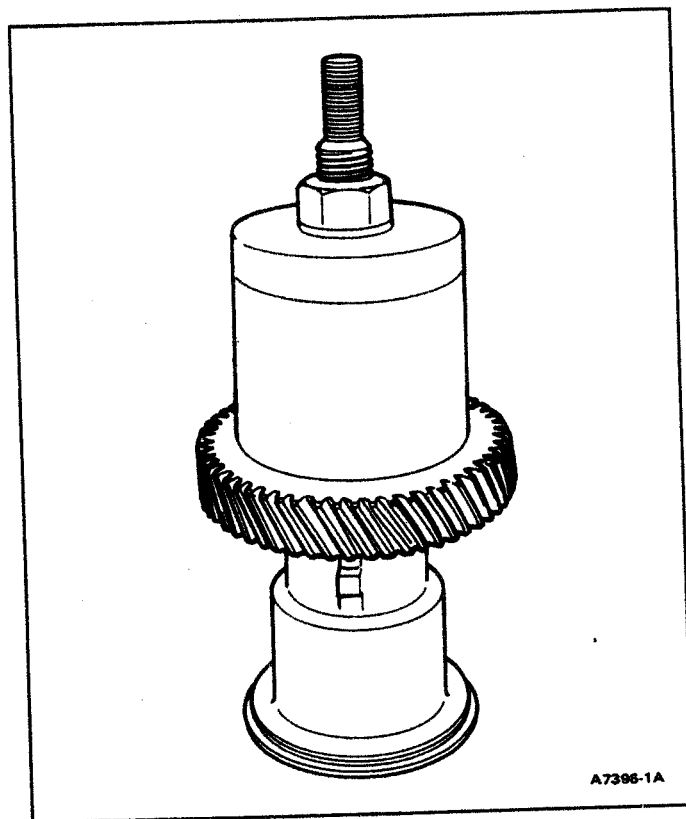
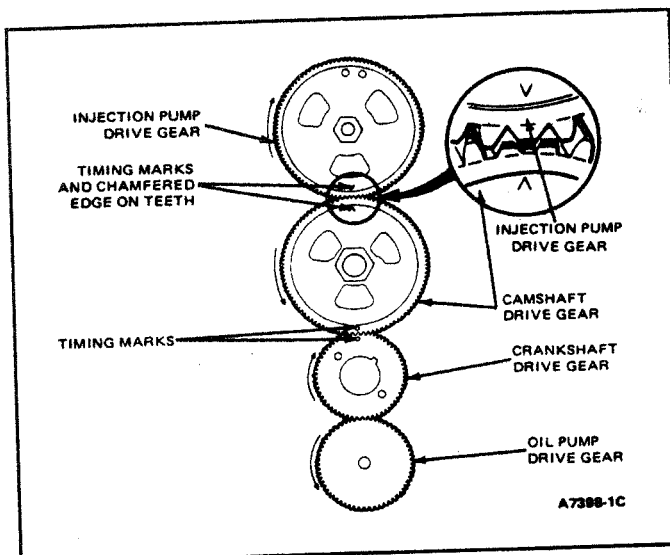

FIG. 41 Crankshaft Drive Gear Installation
FIG. 42 Aligning Timing Marks
1. Install crankshaft gear using Tool T83T-6316-B (Fig. 41) aligning crankshaft drive gear timing mark with crankshaft drive gear timing mark (Fig. 42).
8. Draw a line on the front of the injection pump drive gear at the six o'clock position where the one locating chamfer (Fig. 42) meshes between the two chamfers on the camshaft gear.
2. With drawn line on drive gear at six o'clock position, install gear and align all drive gear timing marks (Fig. 42).